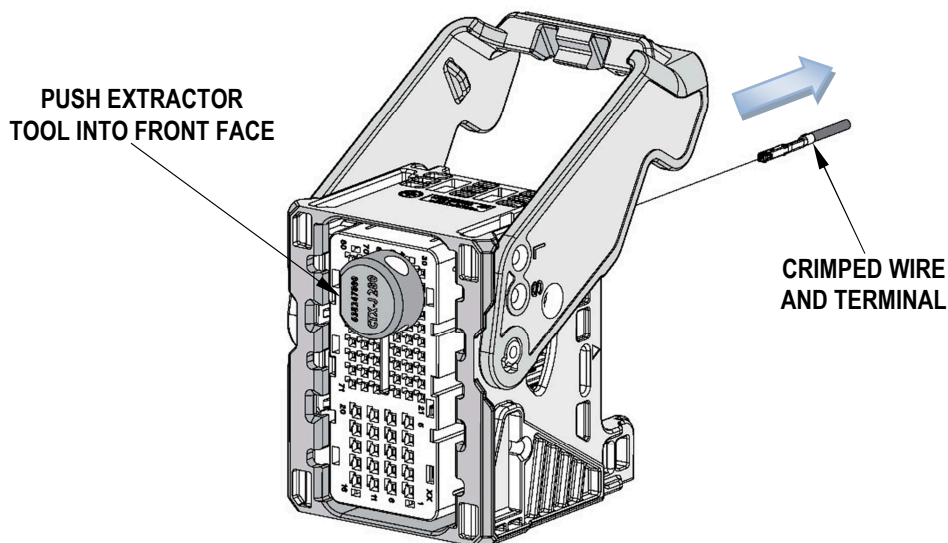

Figure 4
5. Push extractor tool into the desired orientation slot until it bottoms out on the handle. See Figure 4.